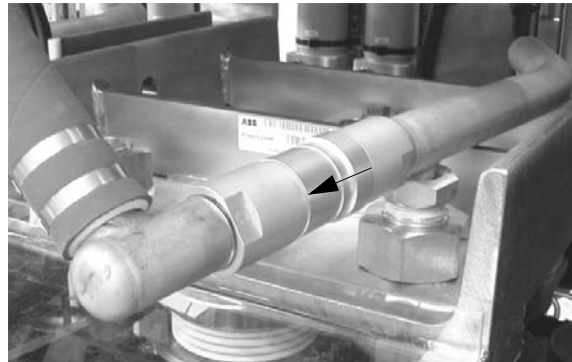

Figure 7-4 Disconnecting a Water Hose
- 5 Disconnect the upper hose first and then the lower hose. To disconnect the water hose pull the locking sleeve of the coupling towards the front of the cabinet (see arrow in *Figure 7-4*).